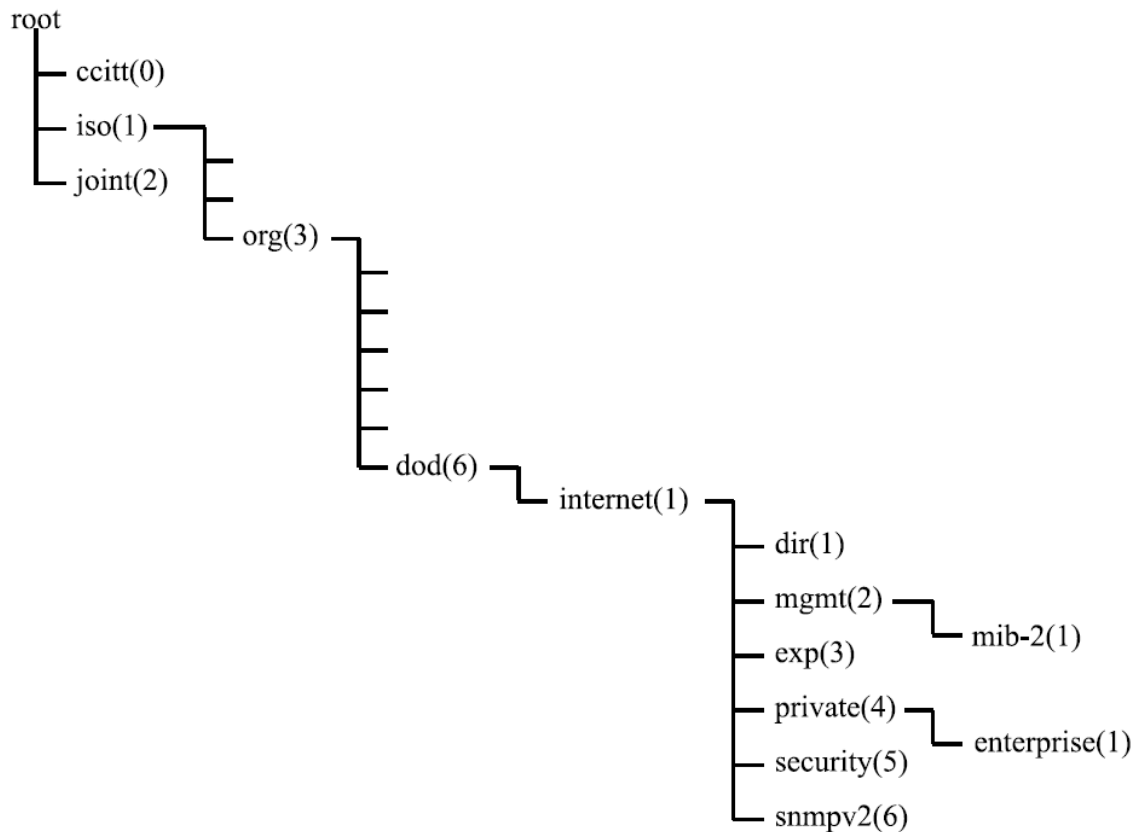

Figure 3 — The identification of objects follows a hierarchical structure.
Managed objects within an agent are organized into a tree-like hierarchy similar to the way files and folders are used to represent the contents of a hard disk. In fact, some NMS software displays the management objects in a graphical fashion as if they were indeed files. However, the nomenclature is different. Managed objects are identified as a series of integers separated by dots representing the nodes on a tree. Naming begins at the root, followed by branches and ending in leaves. Let me give an example. In FIG. 3 on the next page you will see the tree structure for finding MIB-2. It begins at the root on the left. There are three branches, but we are interested only in iso(1). From iso(1) we have three more branches, but we are only interested in org(3). Next there are six more branches, but we follow dod(6). From this branch we go to internet(1). At this node we are at the base of all SNMP MIBs. The short form for representing where we are is 1.3.6.1 or we could say iso.org.dod.internet.